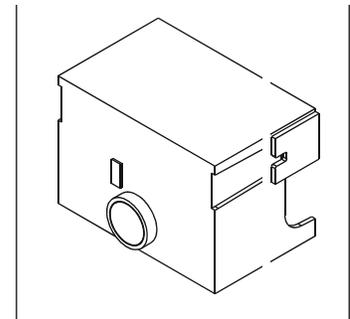

Figure 20. Flame Controller
The Flame Controller (**Figure 20**) sequences the Gas Igniter and Gas Valves for safe ignition and operation. It detects a flame using (flame rectification) by passing a current from the Flame Rod through the flame to the Burner Vanes. A window on top of the Flame Controller indicates that the Motor/timer is running during the purge and trial cycles. A solid red light illuminates when the control is locked out, and will reset the control when pressed for approximately one (1) second but less than three (3) seconds.